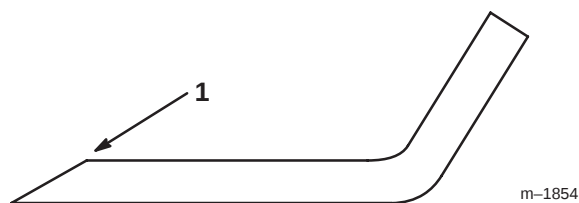

Figure 49
1. Use a file to sharpen the cutting edge at both ends of the blade (Fig. 49). Maintain the original angle. The blade retains its balance if the same amount of material is removed from both cutting edges.